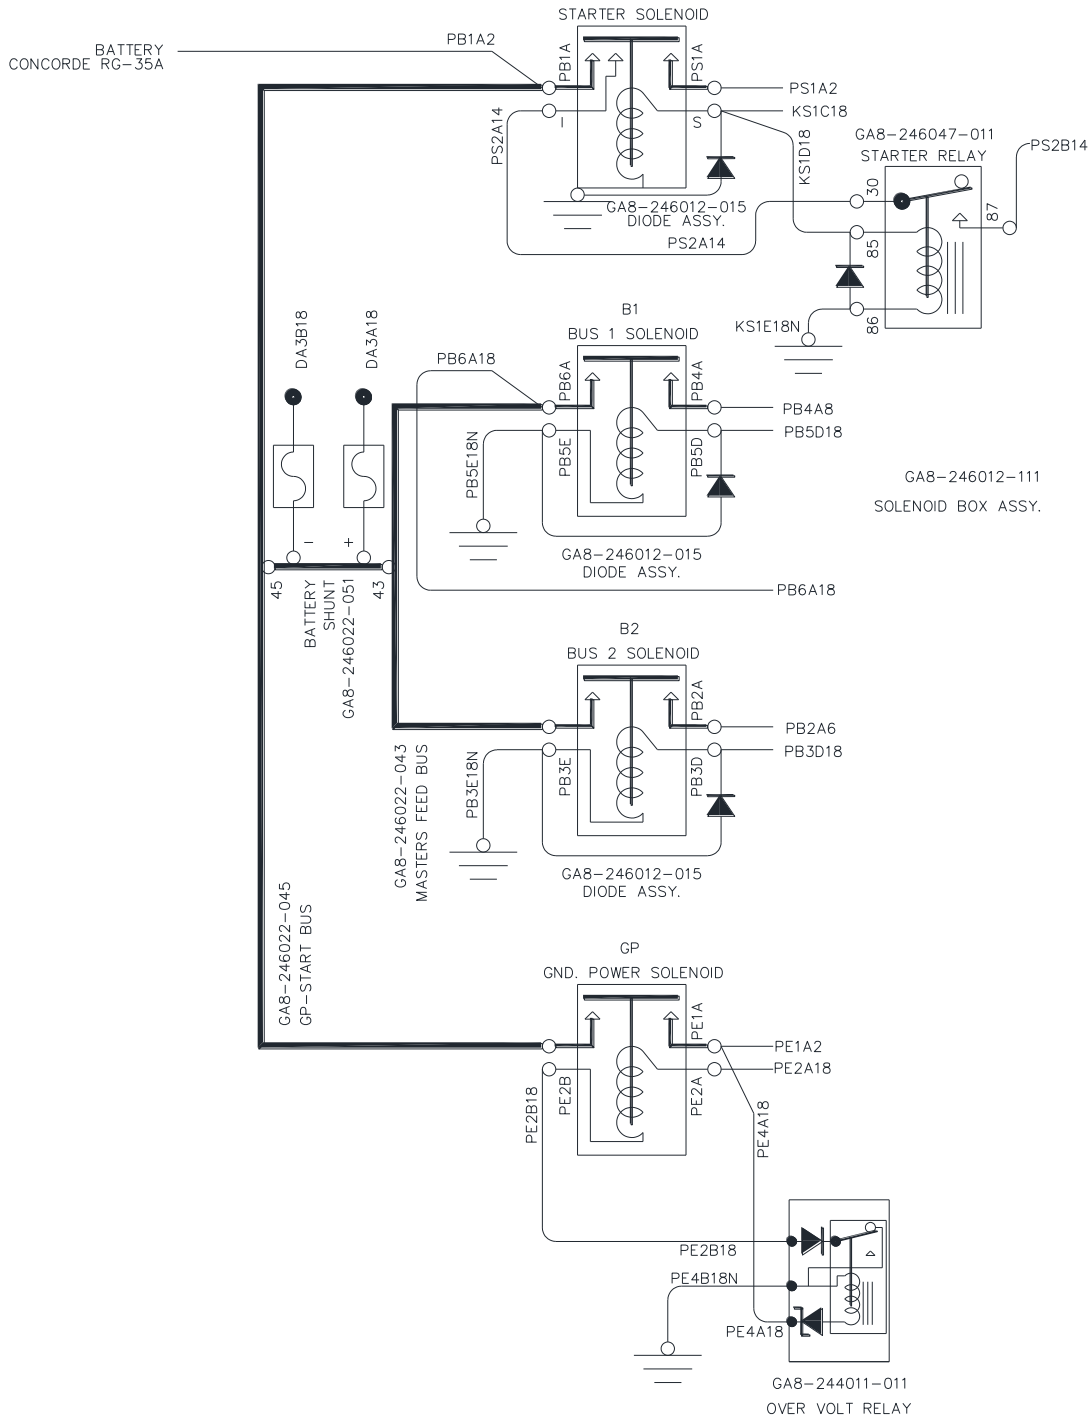
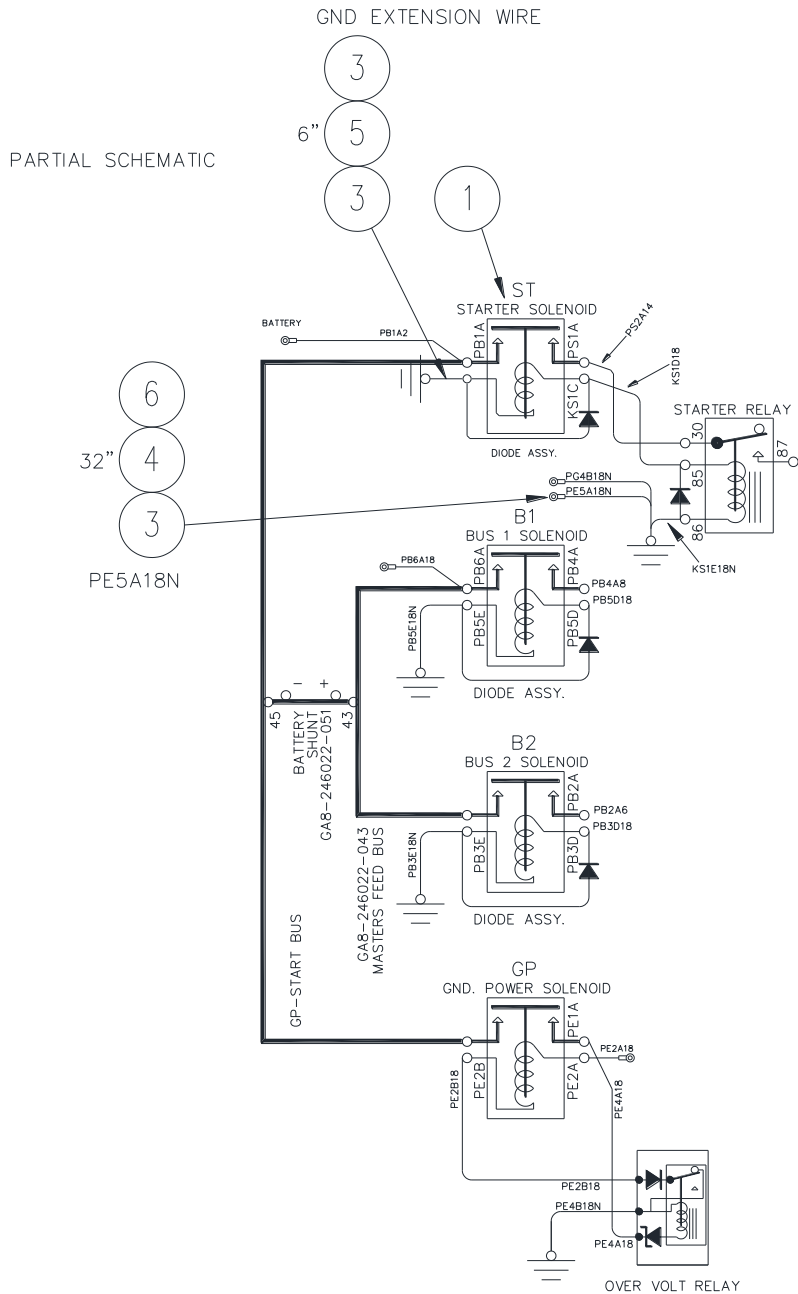

Figure 9 – Original solenoid wiring (partial)
Figure 10 – Modified wiring (partial)
- 1.5.4 The original wiring in the solenoid box is given in Figure 24-1 “Power Distribution Schematic” of the GA8/GA8-TC 320 Service Manual. The modification to be made is shown in Figure 10. Figure 9 and Figure 10 are a partial view of the entire wiring made within the solenoid box. Figure 9 is a close-up view of the wiring associated with the starter solenoid.
- 1.5.5 For a four-stud solenoid, an earth wire link is required between the starter solenoid coil negative terminal and the earth point on the box. The supplied wire assembly is too short and is to be replaced with Items listed in Figure 10 for the “GND EXTENSION WIRE”.